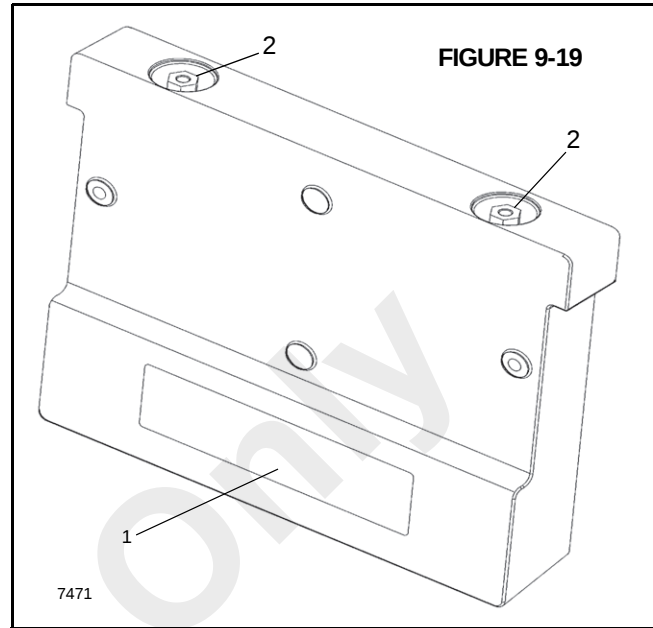

FIGURE 9-19
Each counterweight plate can be identified by the part number and weight steel stamped (1, Figure 9-19) into the side of the plate.
3. Install two threaded lifting bolts into the 1.25 x 7 UNC lift inserts (2, Figure 9-19). Using a proper lifting device, attach lifting straps to the bolts. After straps are attached remove slack from the straps.
Install two lifting bolts into the 1.25 x 7 UNC lift inserts (2, Figure 9-19). Using a proper lifting device attach straps to each bolt, lift and place the counterweight inside the crane support weldment.